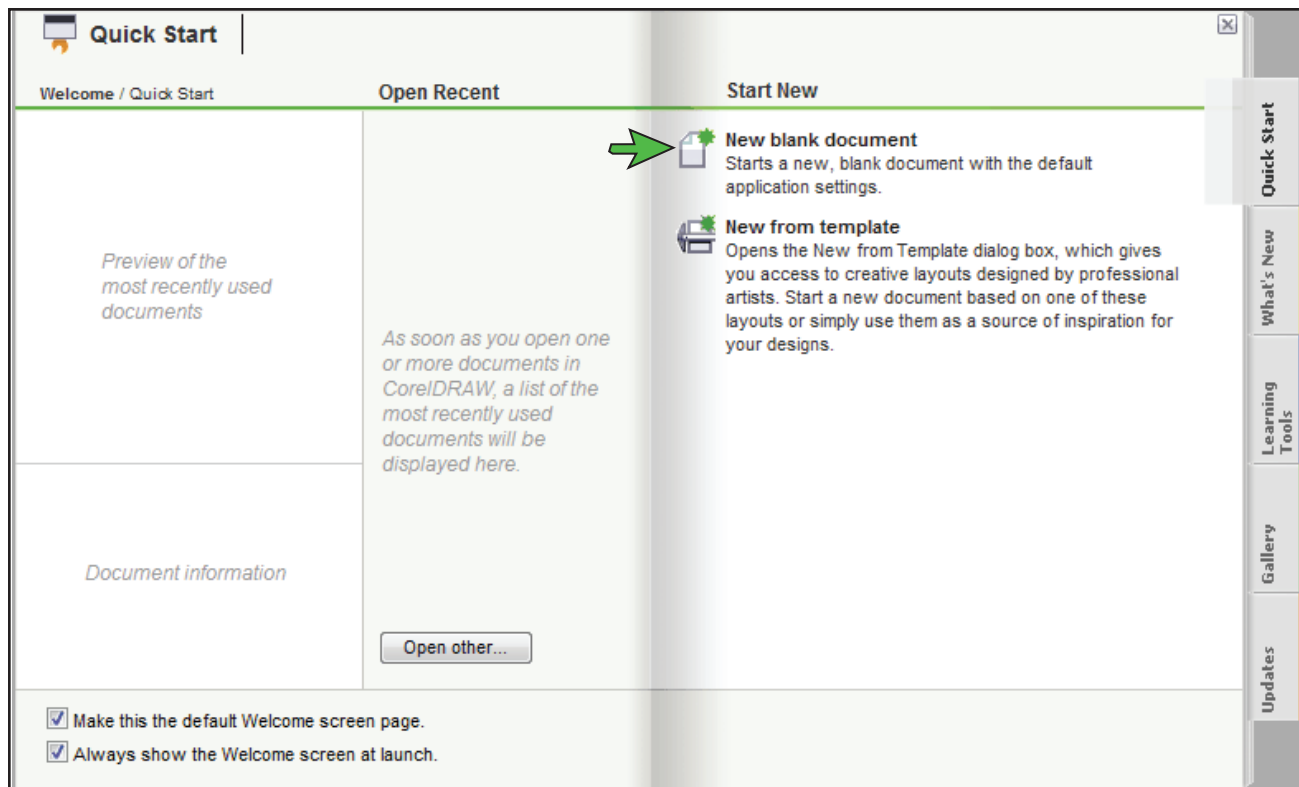

FIGURE 1
1.) Open a New Page in CorelDRAW: (see FIGURE 1)